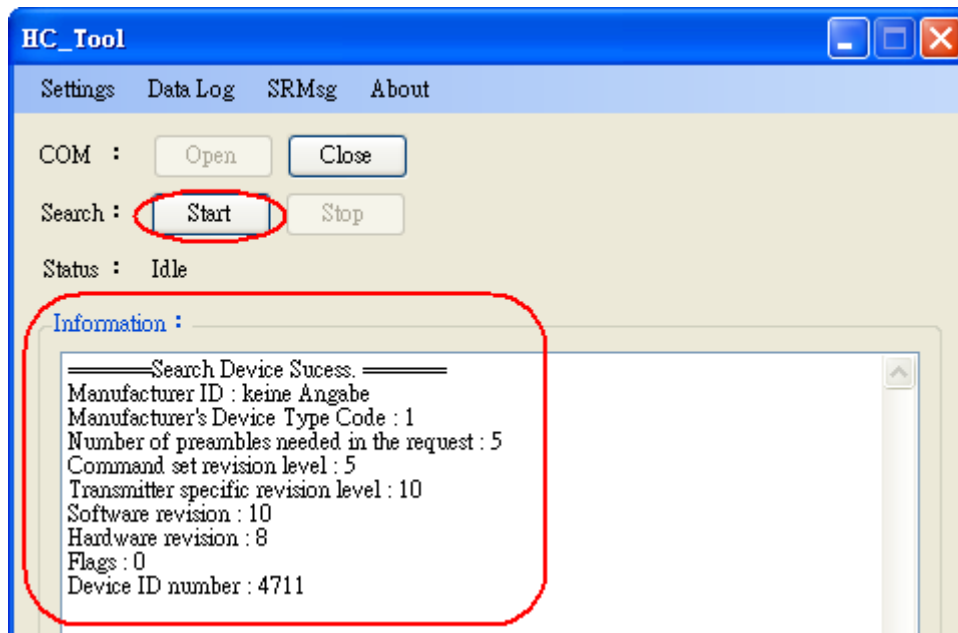

Figure 3-4: HART device Information
Step4: Click “Start” button to search all HART devices and the result will be shown in the ”Information” field like Figure 3-4. If it shows the “Search Device Success” message, it means that the HART communication works well.